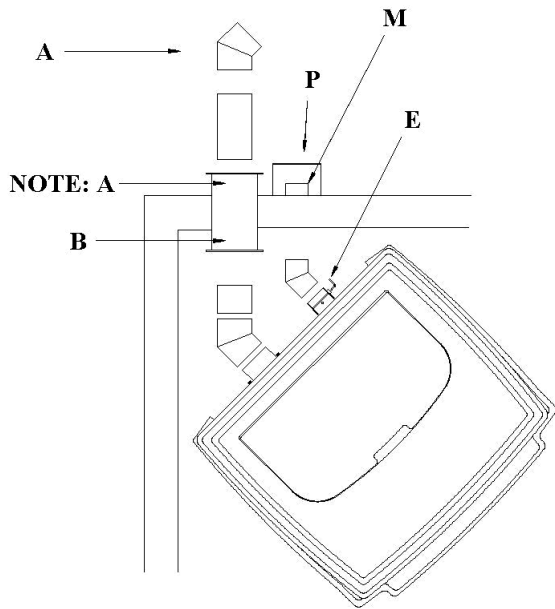

Figure 2
Legend for Figures 2 through 5
1. PL vent may be installed directly through a combustable wall, ceiling or roof according to PL vent manufacturer's instructions. (See Figures 2 and 3).